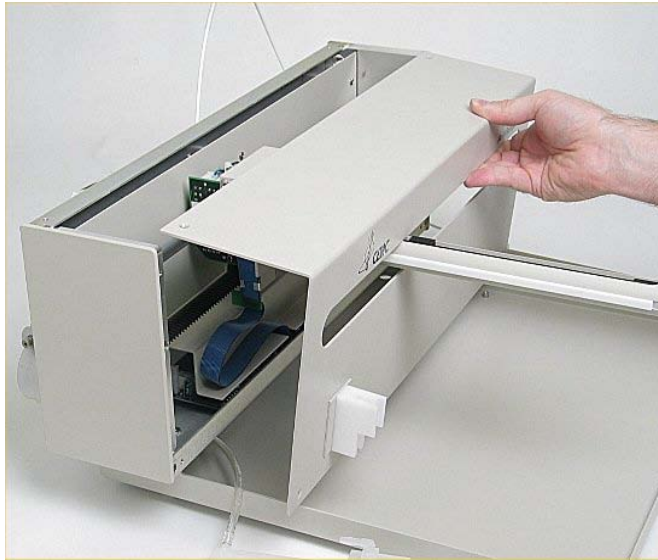

Figure 2-7 ASX-520 autosampler with the front cover being removed
- 8 The front cover is removed by lifting it slightly and pulling forward (Figure 2-7).